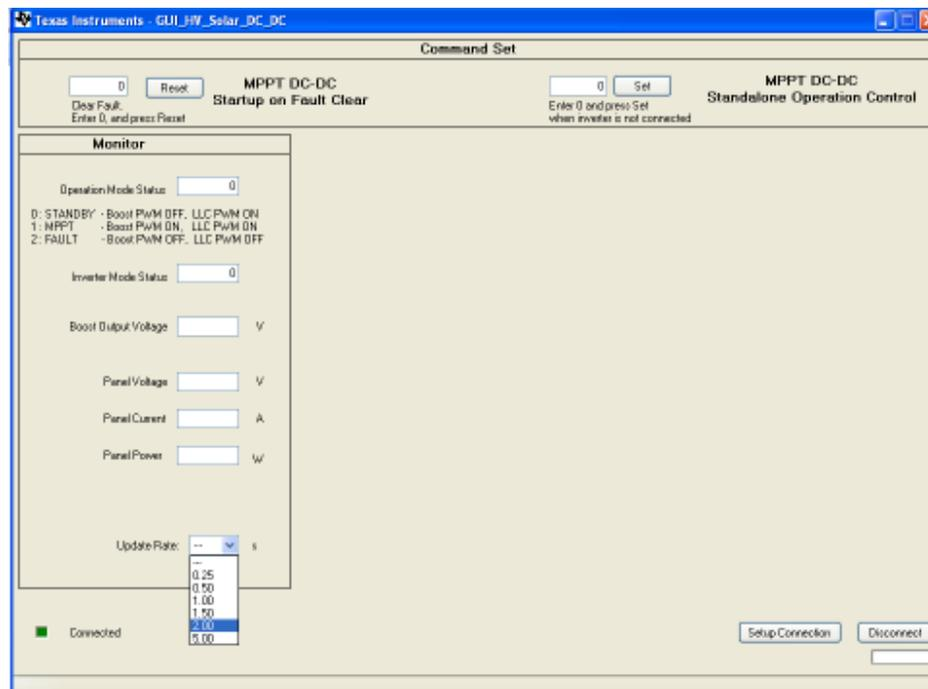

Figure 4. Something Again
7. Select the parameter update rate as shown in Figure 4: